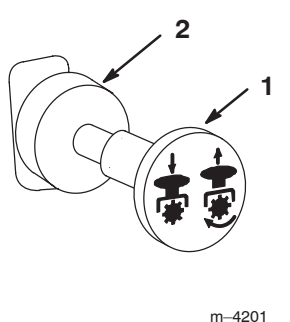

Figure 10
3. Move the PTO (power take off) switch to the off position (Fig. 10).